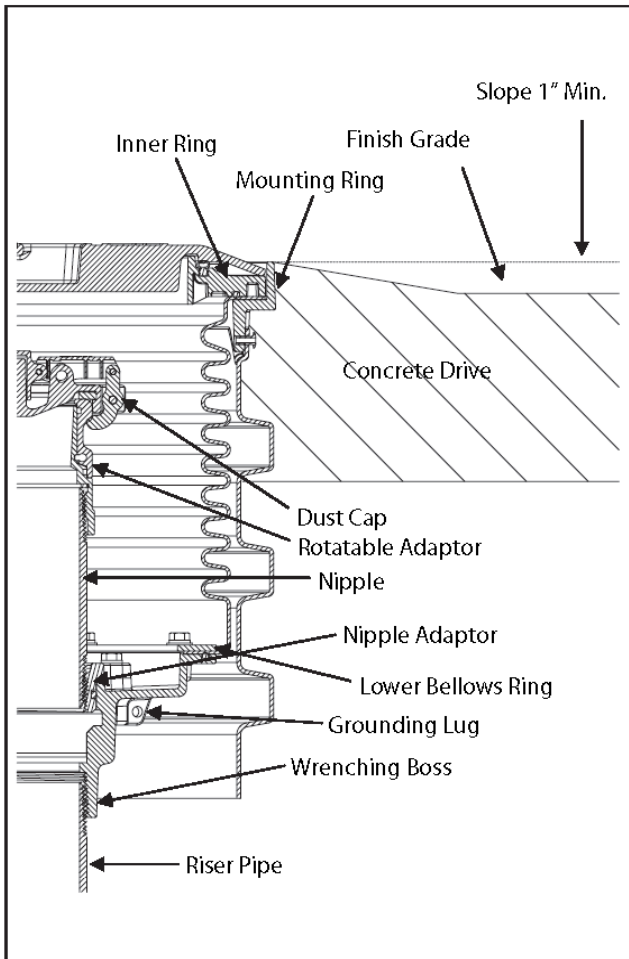

Figure 2
**Step 4: (See Figure 2)**
**Step 5: (See Figures 2 & 3)**
**Step 9: (See Figures 2 & 5)**